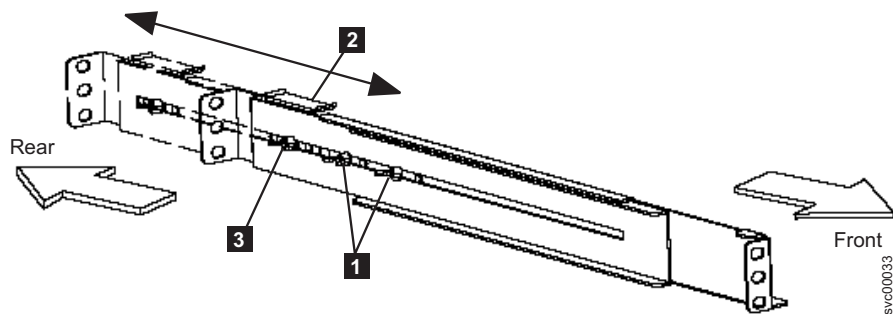

Figure 8. Adjusting the rail depth on the 2145 UPS-1U
4. Loosen the assembly wing nuts (**1** in Figure 8) on both rail assemblies and adjust the rail size to the depth of your rack.
5. Position the rear, hold-down bracket (**2** in Figure 8 on page 16) towards the end of the rail assemblies and tighten the wing nut (**3** in Figure 8 on page 16).